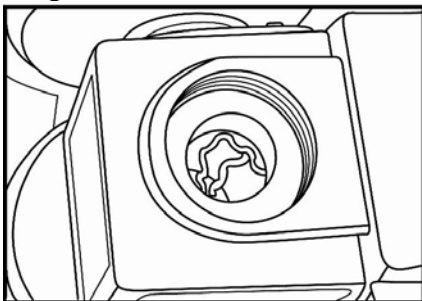

Fig. 12
3. Ensure that the air inlet insert is seated inside each of the three rubber air inlets on the Turbo unit and that the threads and sealing surfaces are free of dirt and debris. (Fig. 12)